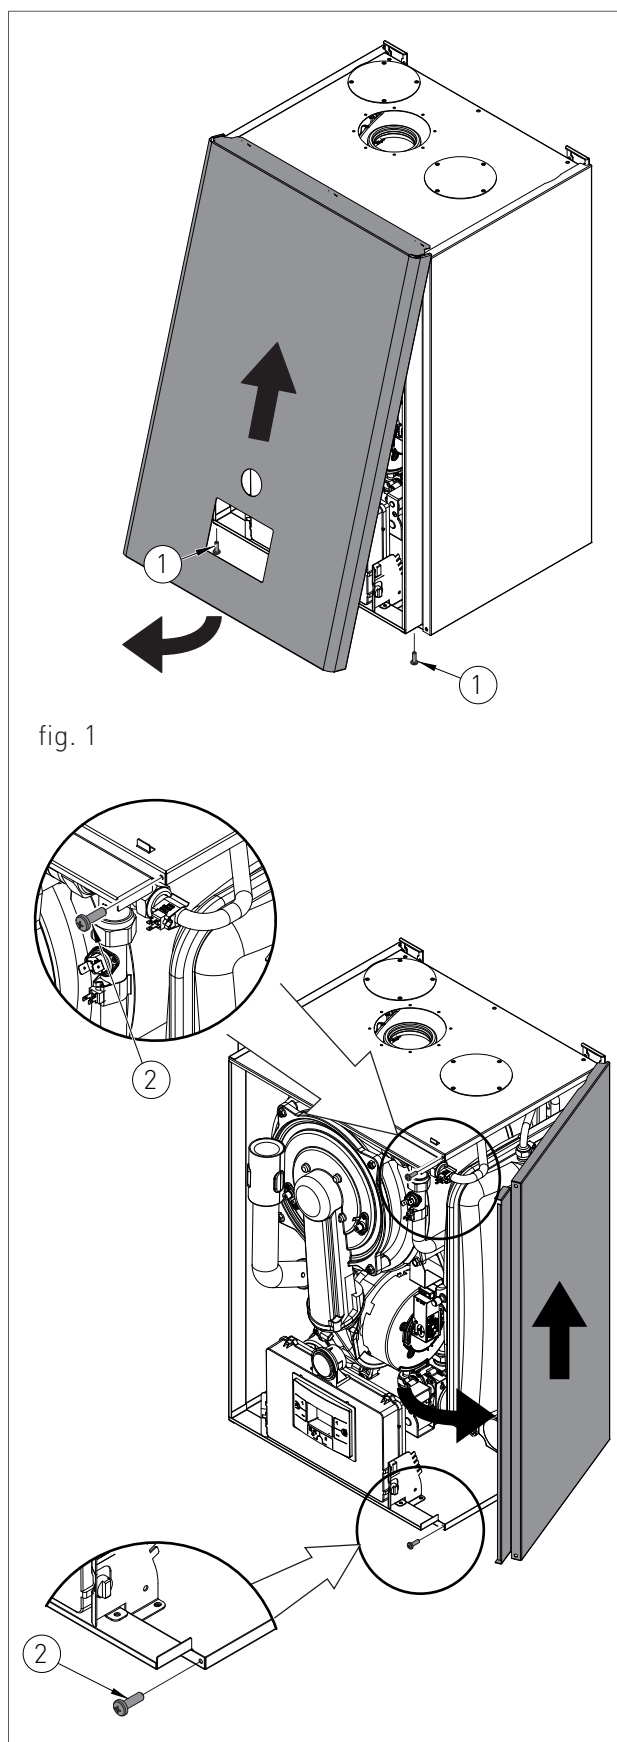

fig. 1
- › remove the fastening screws (1 - fig.1) placed on the lower edge of the front panel;
- › grab the front panel from the bottom and remove it pulling it to yourself and then upwards (see fig. 1).
- › remove the fastening screws (2 - fig.1) placed on the front edge of the side panel;
- › grab the bottom of the panel and remove it by moving it sideways and then pulling it upwards (see fig. 1).